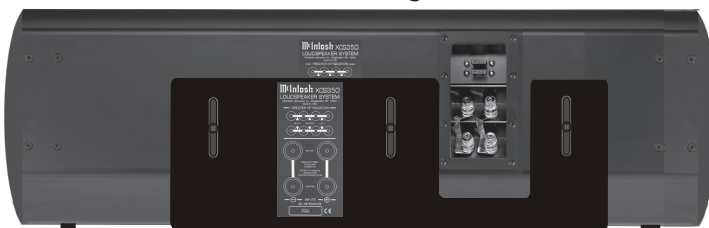

Figure 10
9. Reposition the Stabilizer Bar even with the previously applied rubber bumpers on the side edge of the XCS350 enclosure. Refer to figure 10.